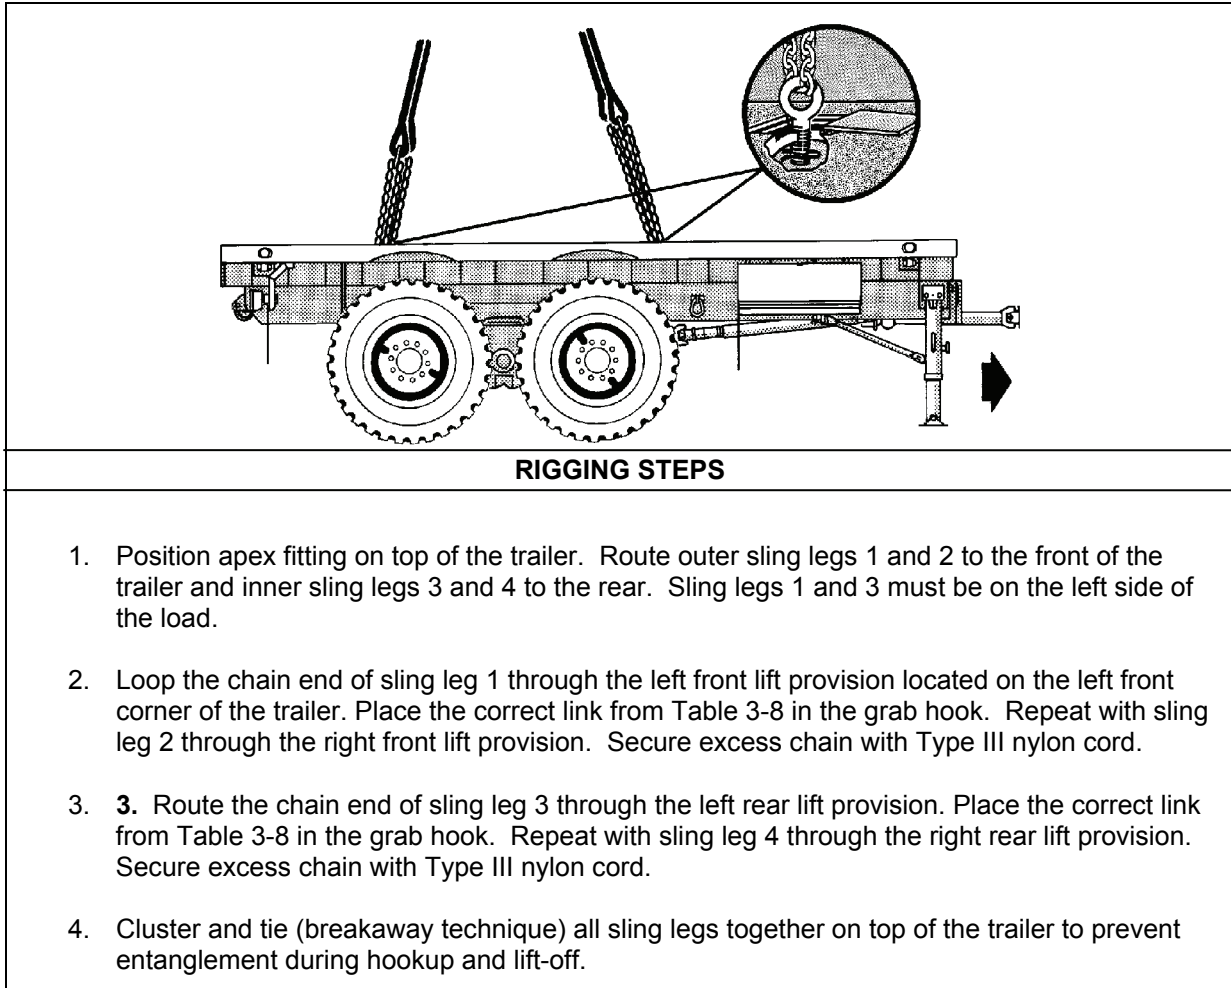

Figure 3-8. Mk14 Container Hauler Trailer
- **Rigging.** Rig the load according to the steps in Figure 3-8.